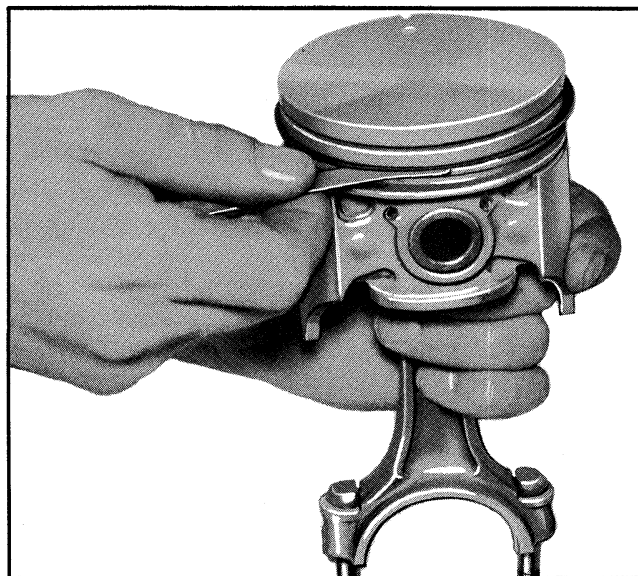

Fig. 6-72 Checking Side Clearance
5. Measure side clearance of rings in ring groove (Fig. 6-72) as each ring is installed. Clearance with new pistons and rings should be as follows: